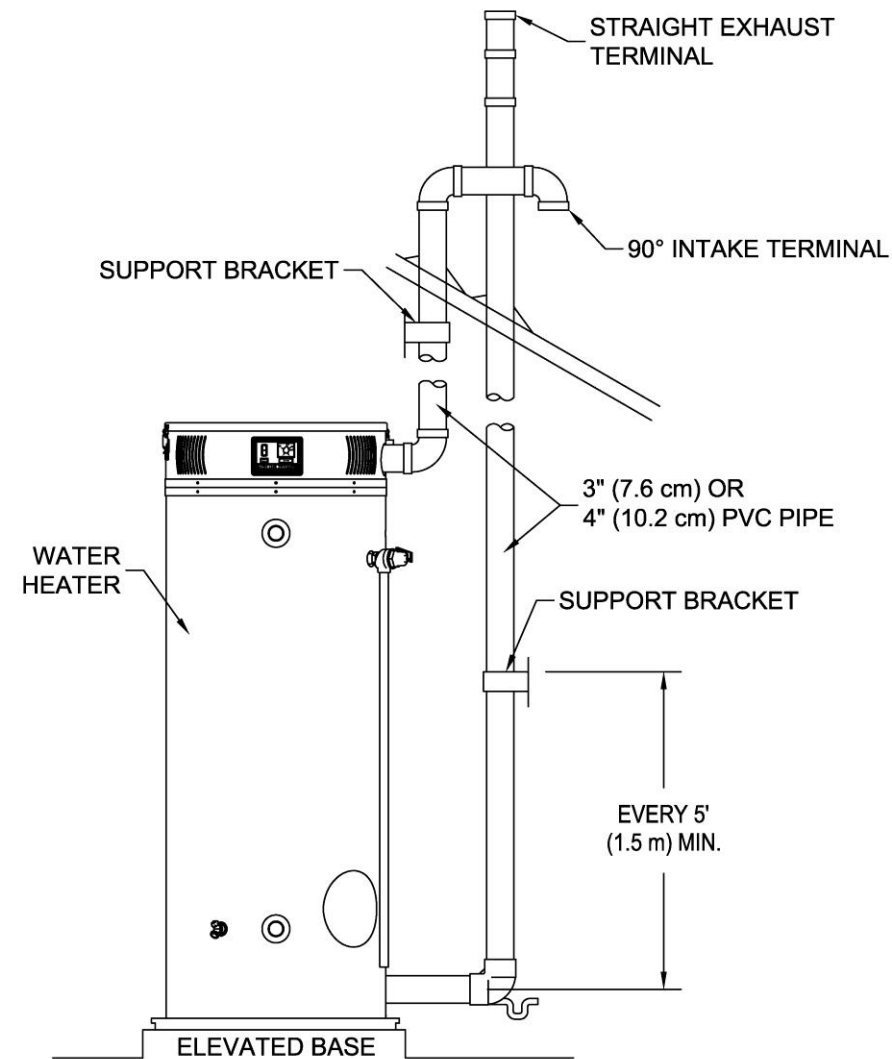

Figure 13. Typical Vertical Direct Vent System Installation
2. Install the exhaust vent and air intake vent pipes as shown in Figure 13 (also refer to preceding horizontal vent installation). Make sure that the installation meets national and/or local codes. Use the proper assembly procedures to secure the vent connector joints.